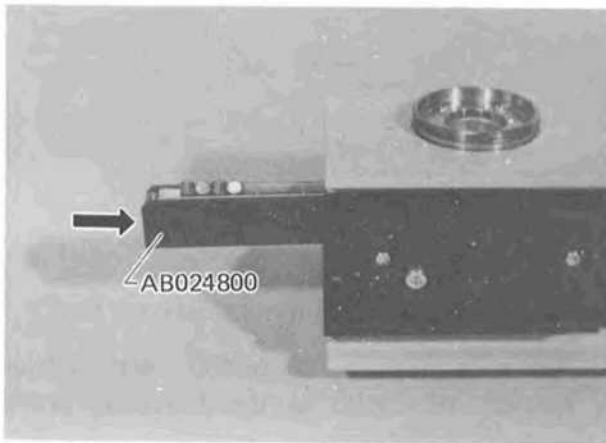

Fig. 4-8
- Push in the Ball Guide and assemble it in position. (See Fig. 4-8.)